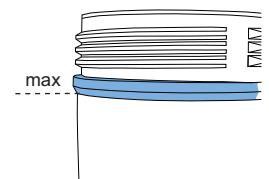

fig. 7
- Add abrasive up to the maximum fill level (fig.7)